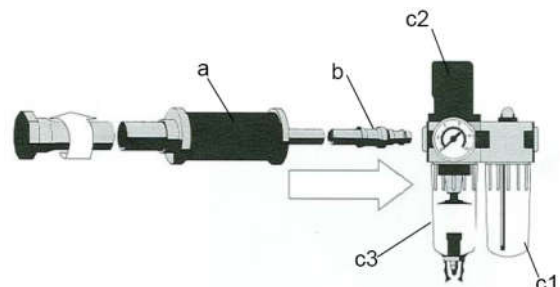

Fig. 1: Maintenance unit
- Connect the pneumatic saw in conjunction with the hose unit (a) and the single hand coupling (b) to the maintenance unit (c1 - c3) (see Fig. 1).